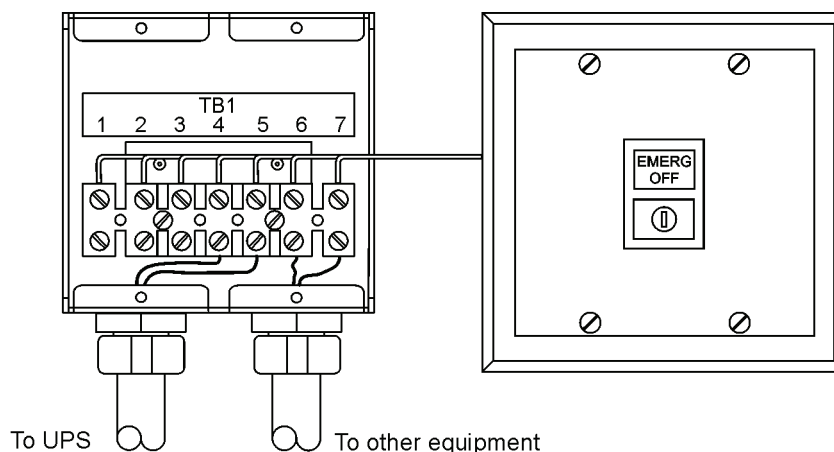

Figure 4-16. Remote EPO switch
A remote EPO switch can be used in an emergency to shut down the UPS and remove power to the critical load from a location away from where the UPS is installed. Figure 4-16 shows a remote EPO switch.
11. If required, install wiring from the remote EPO switch to the trip circuitry of the upstream protective devices. A normally-open (NO) contact is provided between terminals 6 and 7 of the remote EPO switch (where applicable), as shown in Figure 4-16. Remote EPO switch wiring must be in accordance with electrical code requirements.